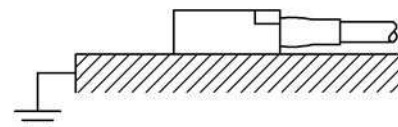

Fig.3
- The grounding is an effective measure against noise and failure of the transducer caused by electric charge. (Fig.3)